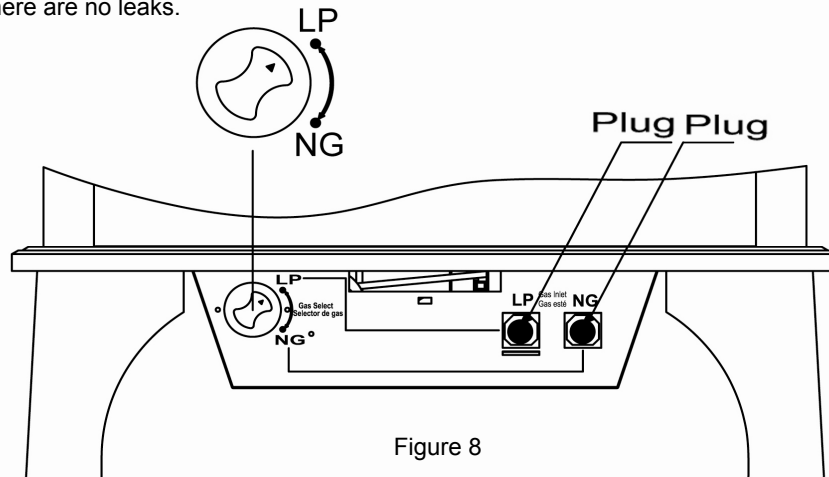

Figure 8
1. Remove bottom screw from cover plate, see Figure 8, and rotate to expose gas selection valve.
1. Remove bottom screw from cover plate, see figure 8, and rotate to expose gas selection valve.